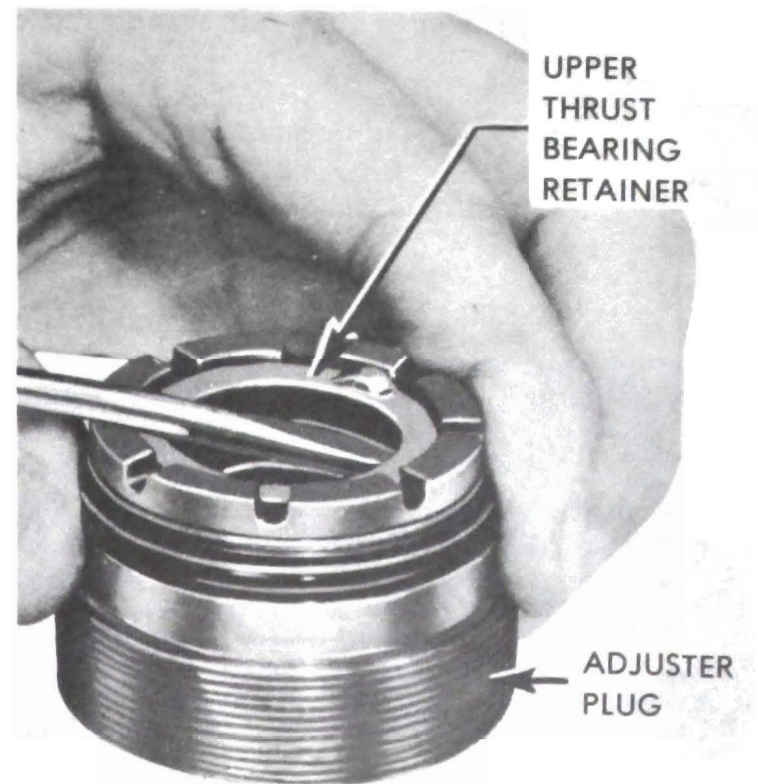

Figure 90-39 Removing Upper Thrust Bearing Retainer
1. Remove the upper thrust bearing retainer with a screwdriver, being careful not to damage the needle bearing bore. See Figure 90-39. Discard retainer. Remove thrust bearing spacer, upper thrust bearing and thrust bearing races.